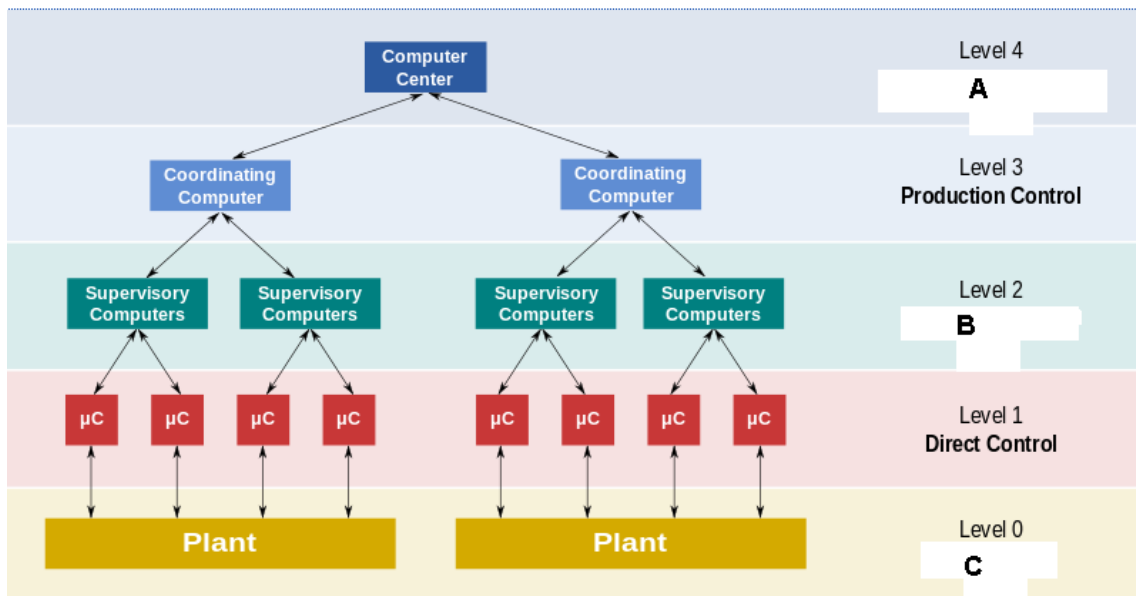

Figure 1: DCS
- (a) **Figure 1** is a Distributed control level system (DCS). Named layer A, B and C